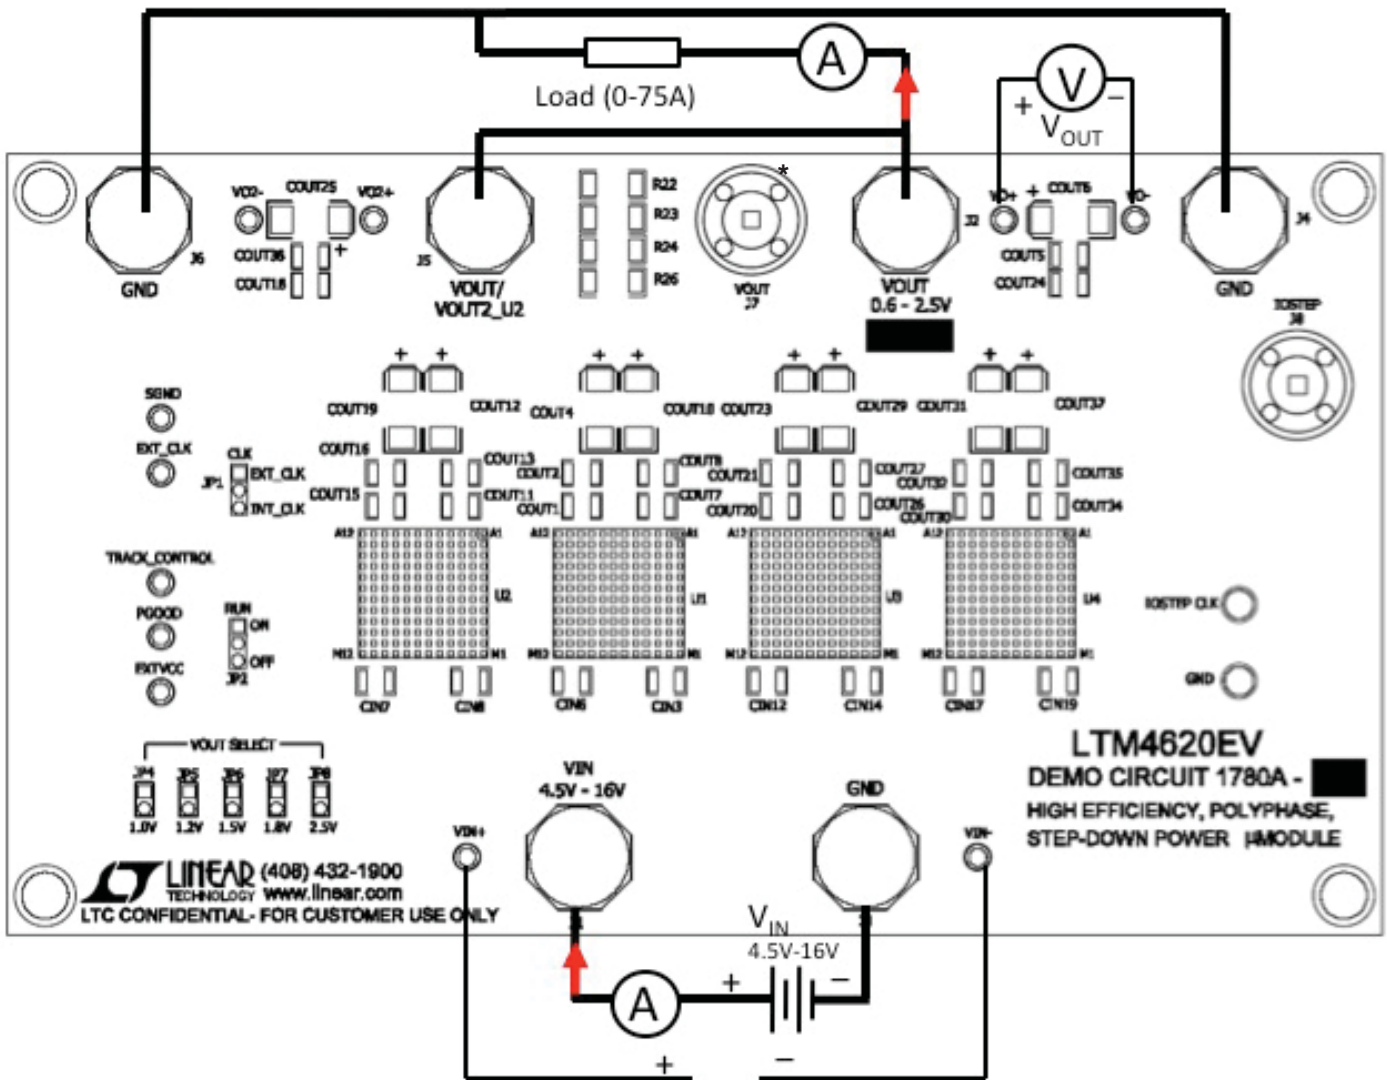

Figure 2. Test Setup of DC1780A-B
Demonstration circuit DC1780A-B is easy to set up to evaluate the performance of PolyPhase operation of the LTM4620EV. Due to the high input/output current, select a proper input supply/load/cable which can sustain the full load operation. Please refer to Figure 2 for proper measurement setup and follow the procedure below:
- With power off, connect the input power supply, load and meters as shown in Figure 2. Preset the load to 0A and V_{IN} supply to 12V.